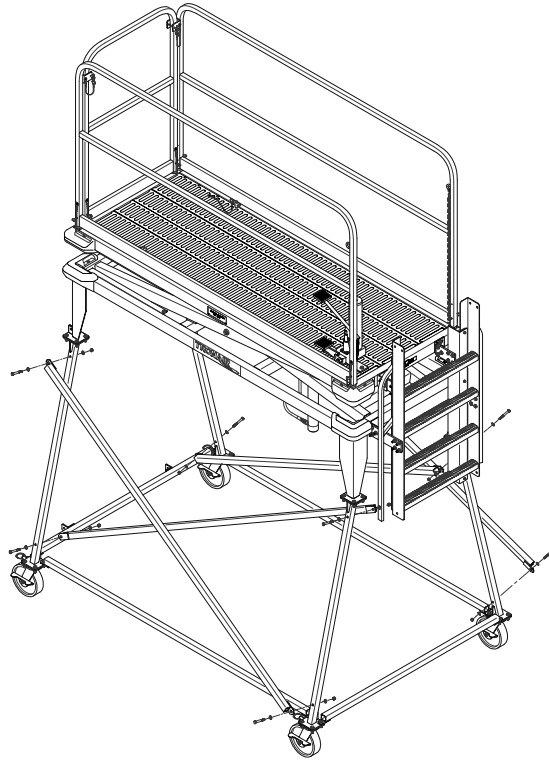

FIGURE 3
4. Install cross braces using $\frac{3}{8}$ -16 x 3 inch long bolts (See *Figure 3* – Page 2).